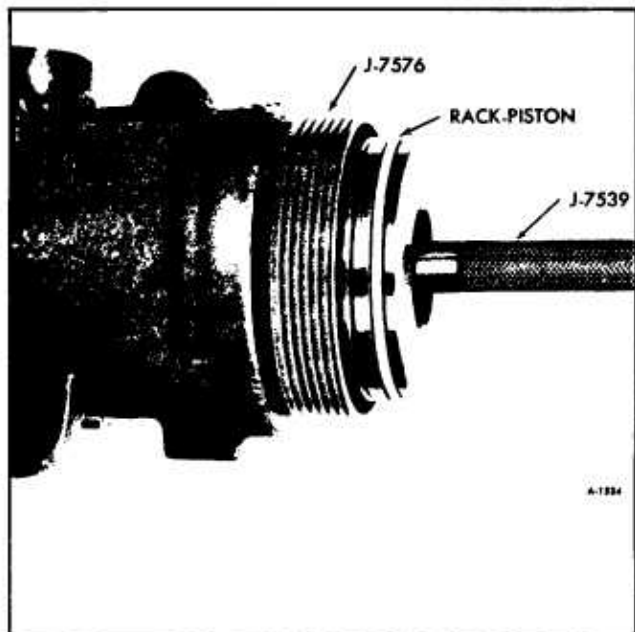

Figure 52—Installing Rack-Piston
c. With Ball Retainer J-7539 in place in the rack-piston, push the rack-piston (with teeth toward pitman shaft opening), into the housing until Tool J-7539 contacts the center of worm (figure 52).